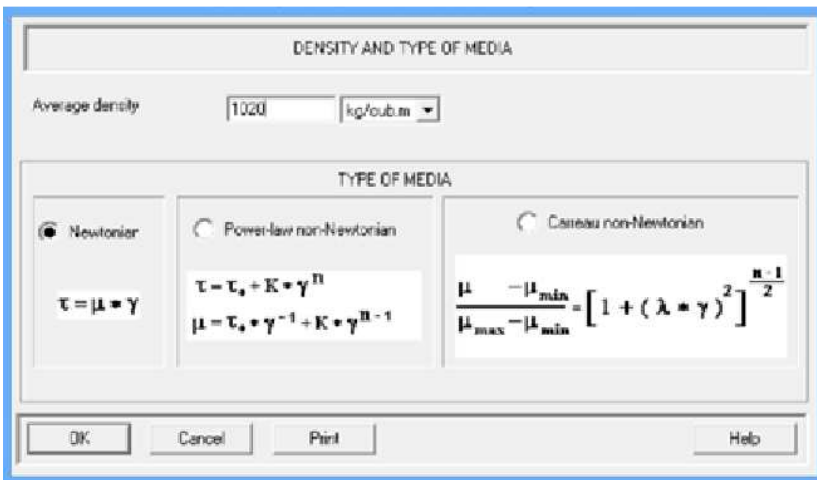

Figure 5.
3.4. Entering main physical properties of media (Figs. 5, 6).